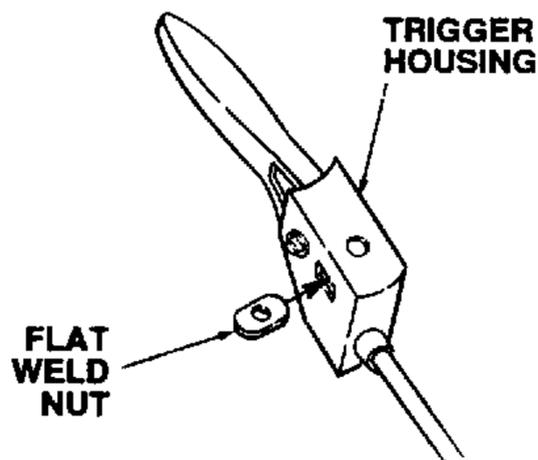

Figure 7-31. Inserting Flat Weld Nut.
- Slide the flat weld nut (21, Fig. 7-24) into the trigger housing. See Figure 7-31.